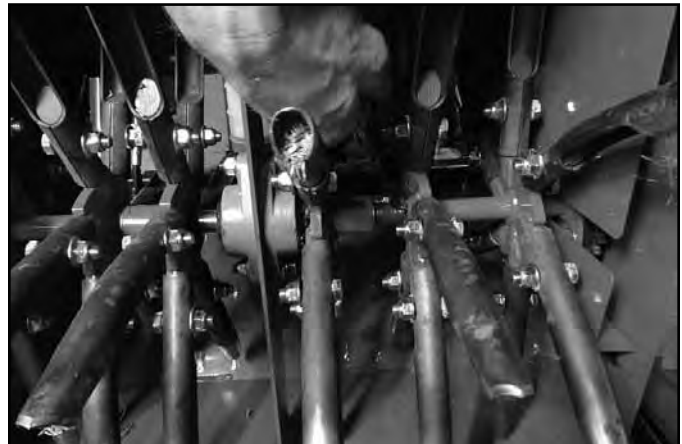

Fig. 148
10. Slide the snap rings on the tine shaft all the way to the outer stationary spider (Fig. 148).